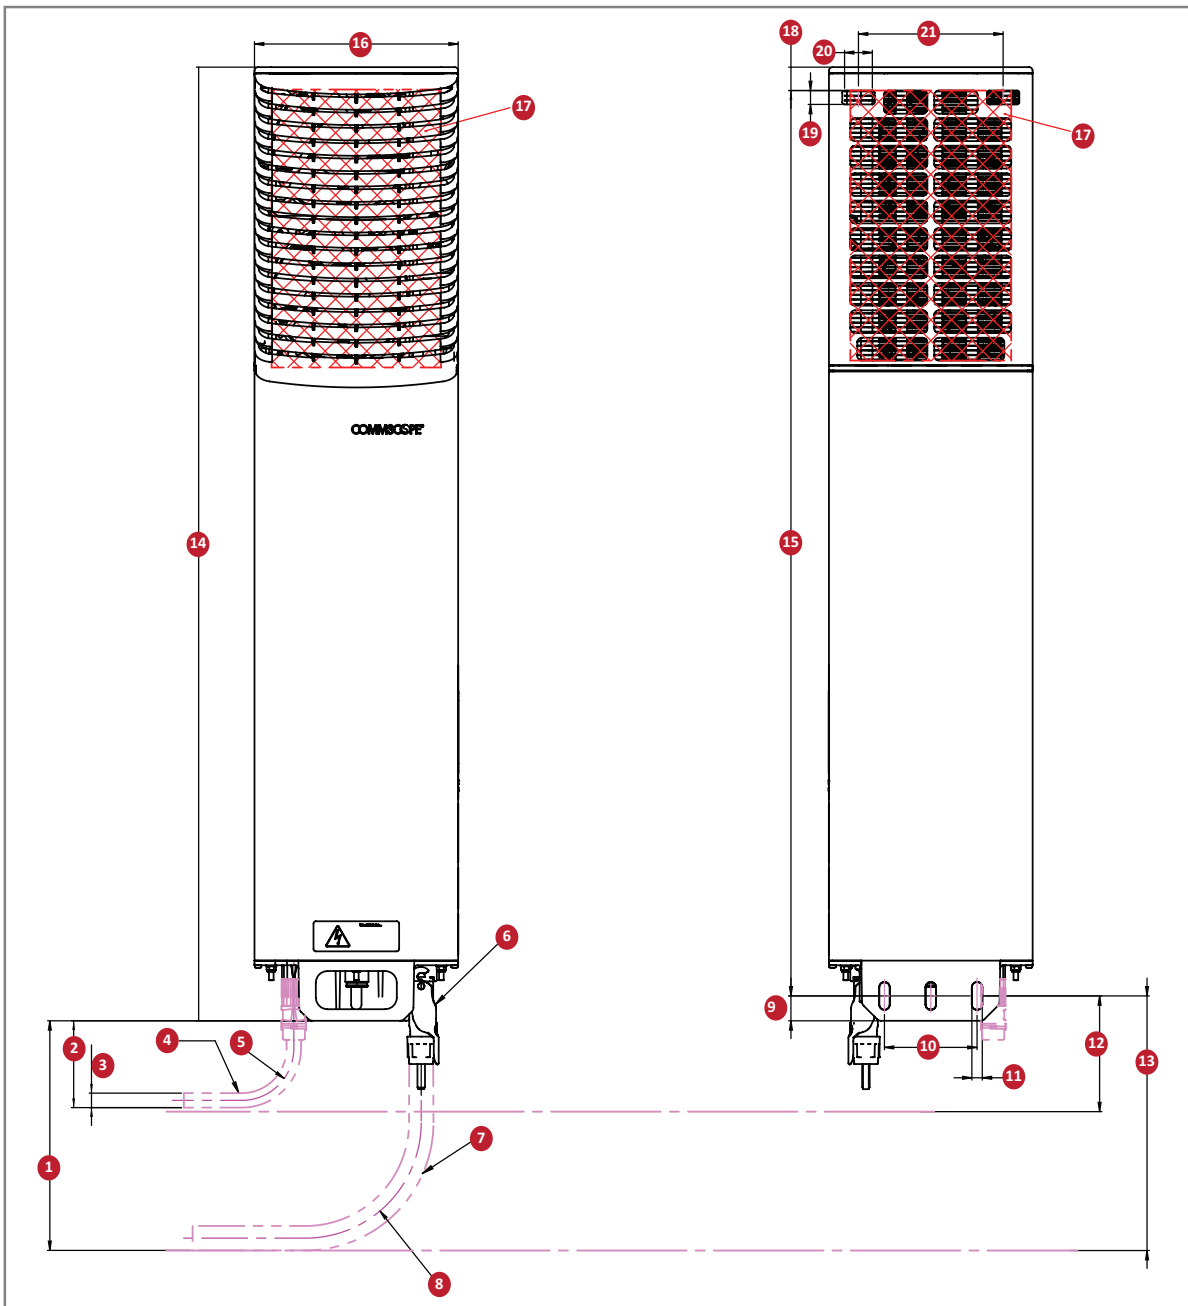

Figure 10. Required Space to Mount a CAP H
- Use the dimensions shown in Table 10 and Figure 10 on page 29 to determine the mounting site.
Table 10. Key to Figure 10 on page 29